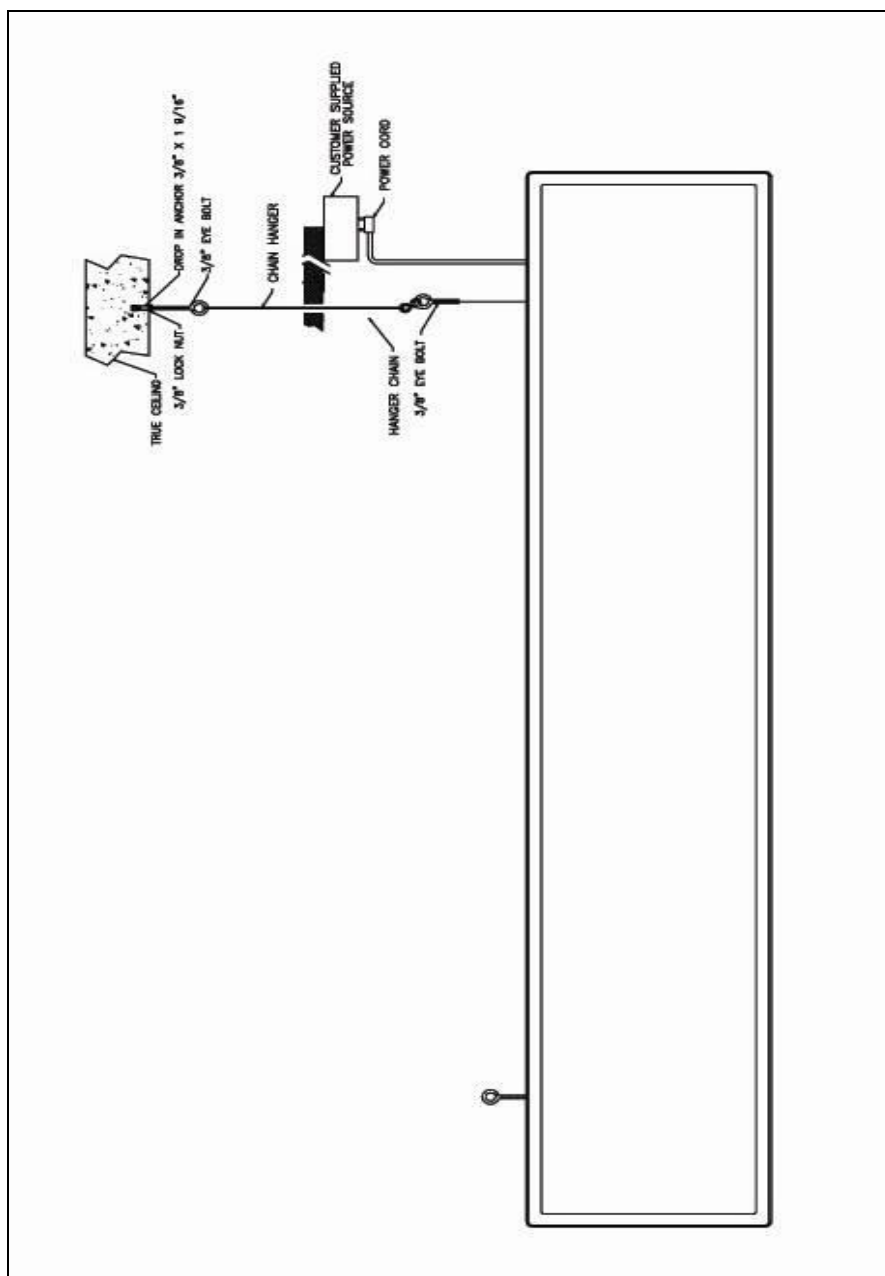

Figure 2 – Typical Ceiling Mount Installation
3. Once you have installed the eyebolts, complete the installation by referring to Figure 2.